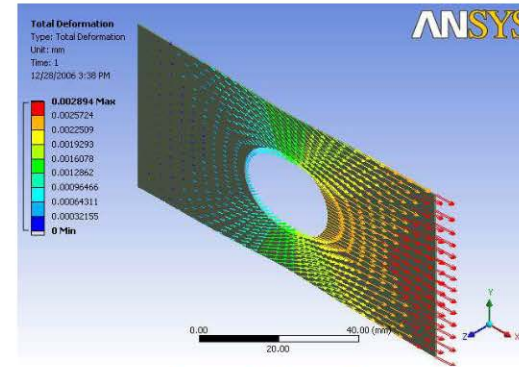

Fig. 148 Vector plot
- Vector plots of deformation are available (see Fig. 148).